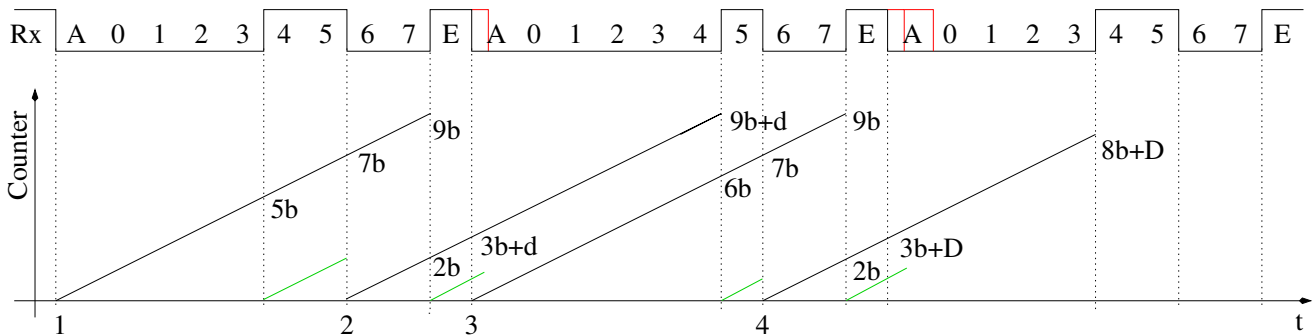

Figure 3.6. Possibel timer measurements for the STK_GET_SYNC sequence
If you specify a baud rate below $100Baud$ for generating the bootloader code, the program will be prepared to detect the baud rate from the first received character. At the begin if the transmission with the STK500 protocol the computer send a command STK_GET_SYNC (0x30) followed by the control character CRC_EOP (0x20). For the serial transmission protocol the High level (1) is defined as the idle state. The begin of a transmission is started by s start bit with Low level (0). Directly after the end of the start bit the first data bit is send beginning with the low order bit. After the last of the agreed count of bits (8) is transmitted, the transmission is finished with one or more Stop bits at High level (1). The level of every bit is hold exactly the agreed baud time. The time between the end of the last Stop bit and the begin of the next Start bit is unspecified. The figure 3.6 shows the expected results for all possible time measurement. At the time axis "t" four possible start positions are marked for a complete time measurement of the assumed character. The counter
is started in each case of a detected 1-0 slope. The right start position for the STK_GET_SYNC character is marked with "1". The marks "2", "3" and "4" show the situation for three possible wrong Start bit detections. For the mark "2" and "4" a 1-0 slope of data bits is detected as Start bit in a wrong way. For the mark '3' is a Start bit correctly detected, but for the wrong character (CRC_EOP). The wrong detections are allways possible, if the bootloader is started not before the transmission was running. The expected counter values are marked at the counter level graph for all four start positions in figure 3.6. The "b" means the counter reading for one bit transmission time (baud time), the "d" stand for a possible time delay between the end of the Stop bit transfer and the start of a new Start bit. The "D" represents a expected long time delay to the begin of the next message. The transmit sequence of the message has reached it's end and the computer wait for an answer of the AVR. In the "Rx"-row the data bits are labeled with "0" (least significant bit) to "7" (highest significant bit). The Start bit has the label 'A' and a Stop bit has the label 'E'. The first byte is the coding of the STK_GET_SYNC character and the second byte is the coding of the control character CRC_EOP.